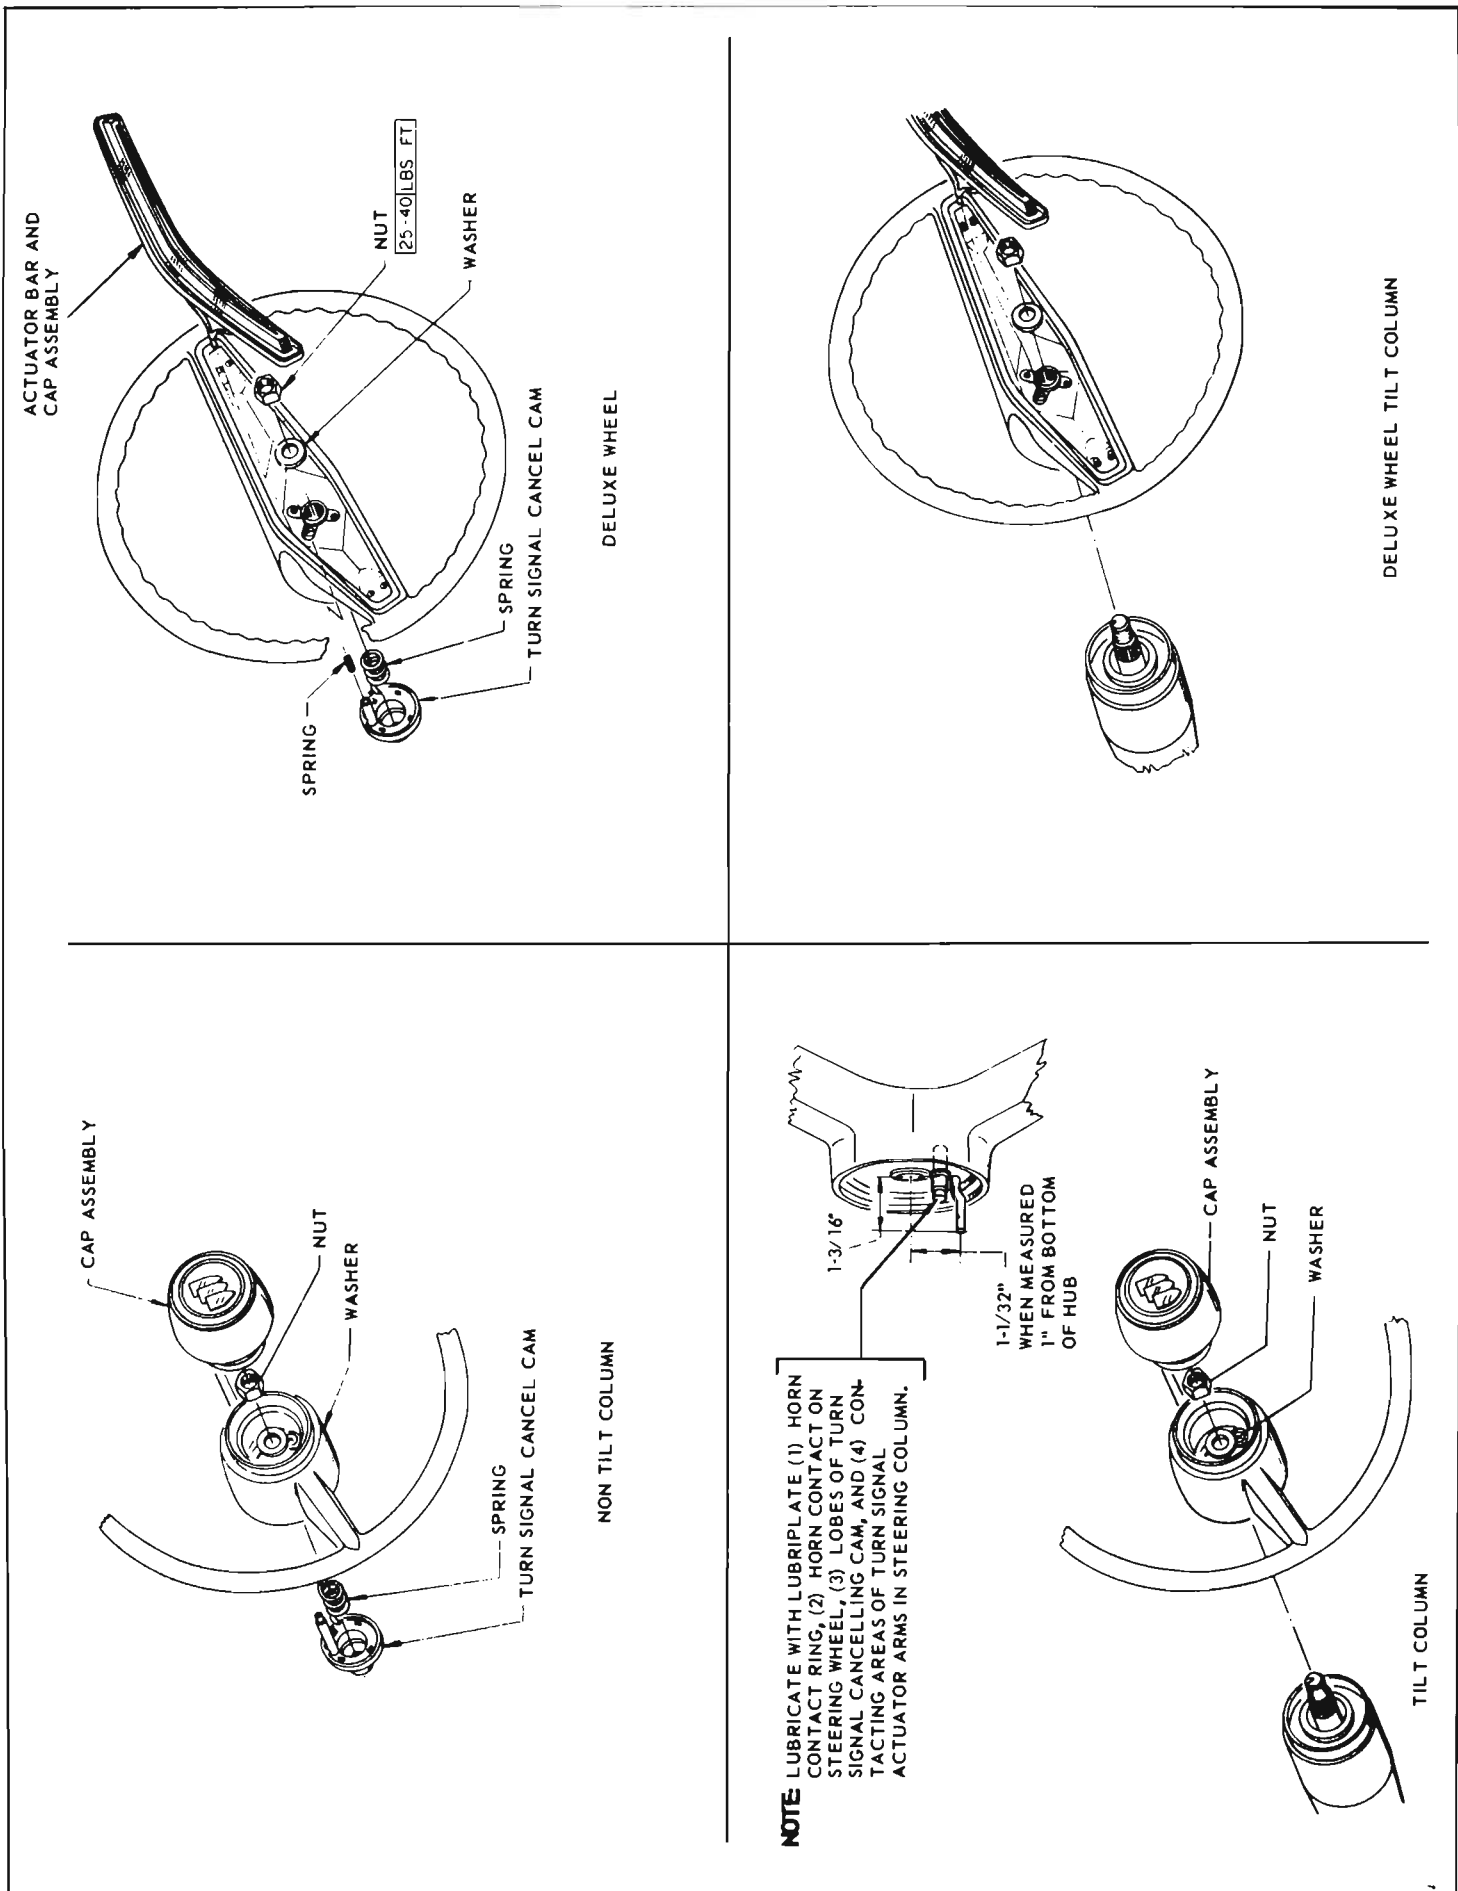

Figure 8-69—Deluxe and Standard Steering Wheel Installation
1. Take off steering wheel (refer to subpar. 8-5), spring, and turn signal cancelling cam. See Figure 8-69.
1. Take out steering wheel (refer to par. 8-5), spring and turn signal cancelling cam. See Figure 8-69.